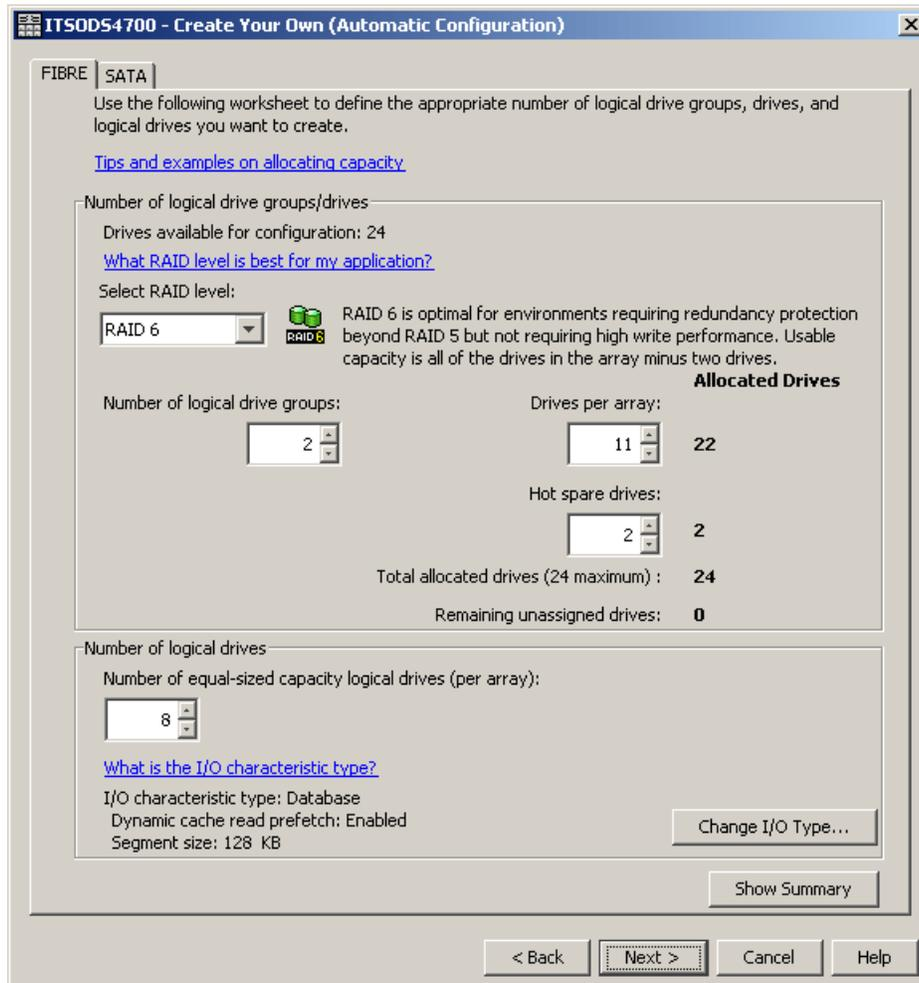
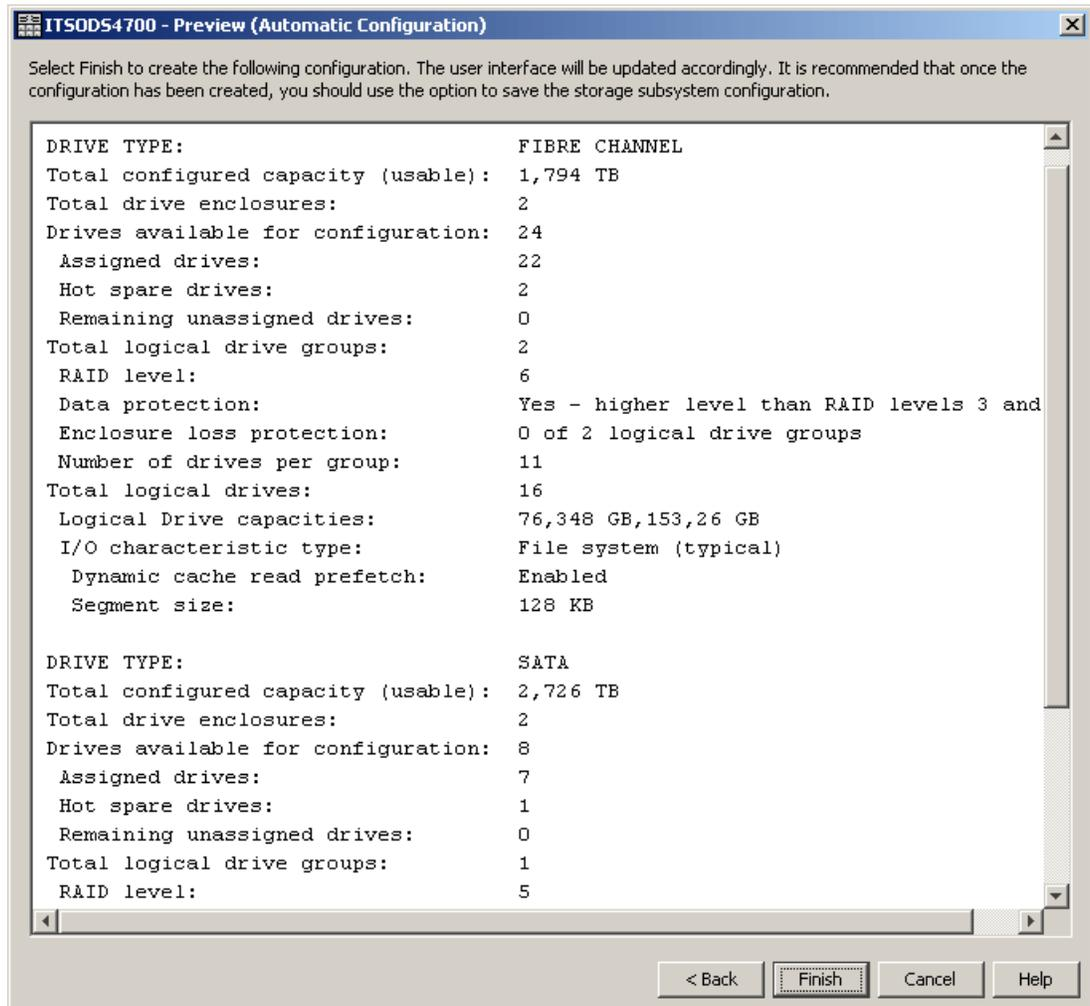

Figure 5-43 Customized automatic configuration
Figure 5-45 Preview automatic configuration
- Create your own configuration: This allows you to customize the configuration by selecting the additional parameters shown in Figure 5-43.
Once you have specified all of your desired values, click **Next** (Figure 5-43 on page 247) to bring up the window shown in Figure 5-45.